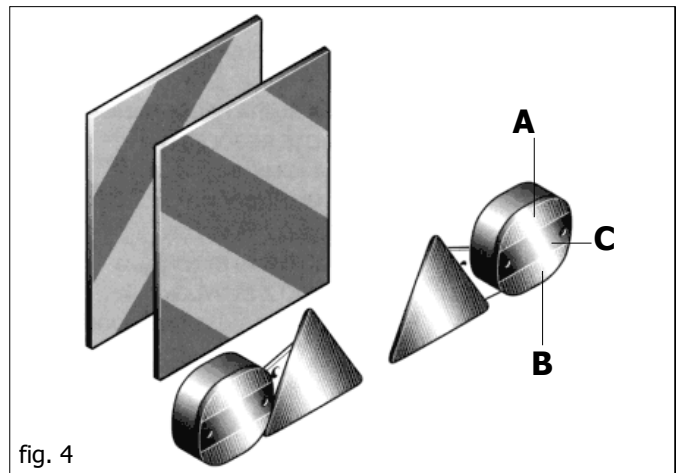

fig. 4
- 37) When the dimensions of carried or partially-carried equipment conceal the tractor's signalling and lighting devices, these must also be installed on the equipment itself, in conformity with regulations of the highway code of the country involved. When in operation make sure that the lighting system is in perfect working order. It is also important to remember that the correct signalling sequence of the headlights includes (Fig. 4):